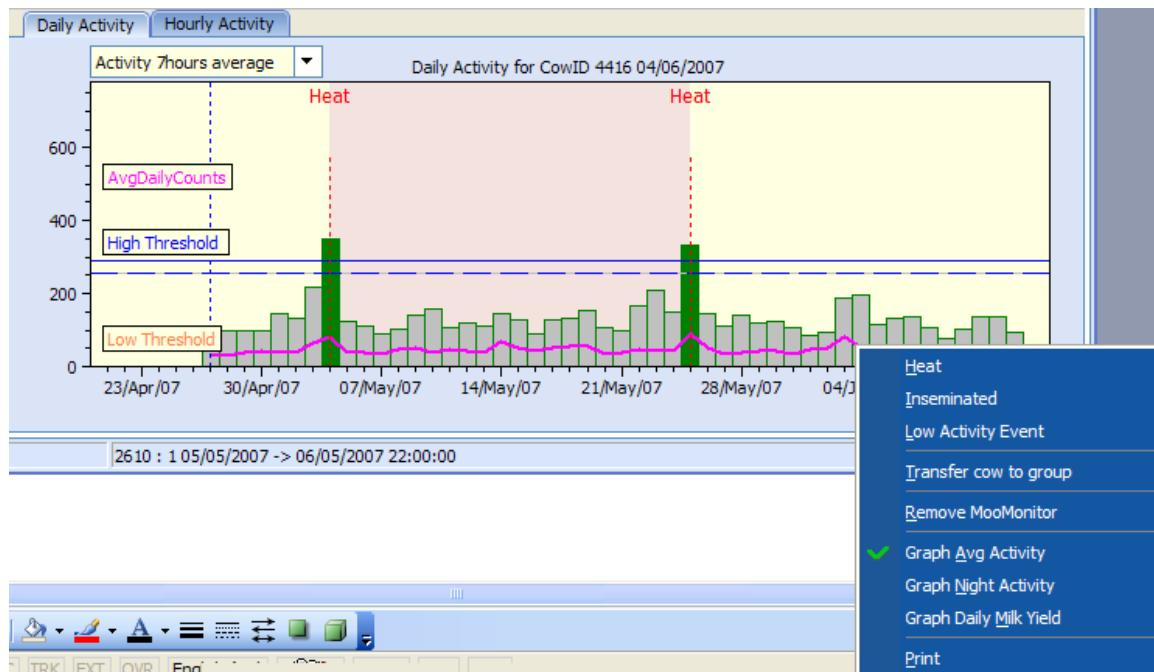

Figure 22 Right Click options.
- b. The options show in Figure 22 on the next page will appear.
h. Repeat steps a – f for the ‘Inseminated’, ‘Low Activity Vet Events’ and ‘Calved’ options in Figure 22 on the previous page.